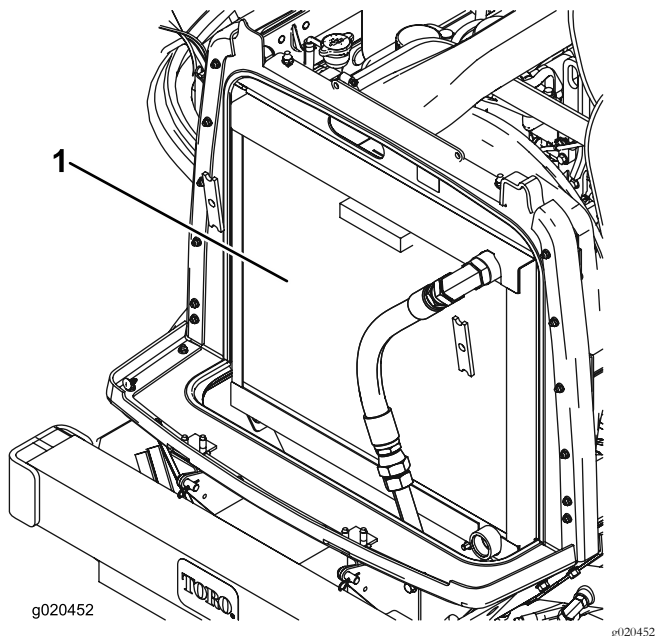

Figure 61
3. Clean both sides of the radiator/oil cooler area (Figure 61) thoroughly with compressed air.